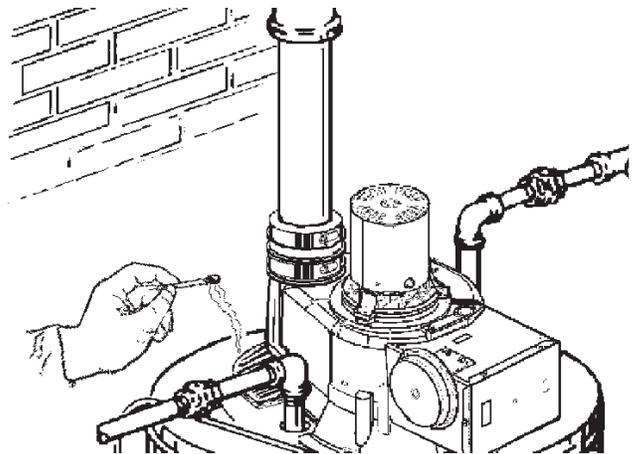

FIGURE 11
- "CHECKING THE DRAFT." Operate the water heater for several minutes and check to see if it is venting properly by passing a lit match or paper near the opening of the Air Mixing Box (See figure 11). If the draft is proper, the match flame will be drawn into the Air Mixing Box. If not, the combustion products will tend to extinguish the flame. If an improper draft exists, do not operate the water heater until proper adjustments or repairs are made to provide adequate draft through the gas vent.